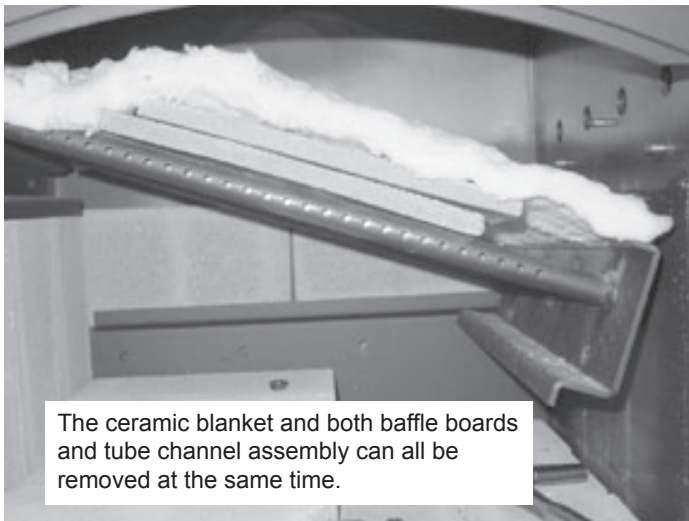

Figure 24.1
2. The baffle board has 2 pieces. With the ceramic blanket still in place, slide one baffle piece over the top of other one but still keep it all components inside the firebox. **Figure 24.1.**